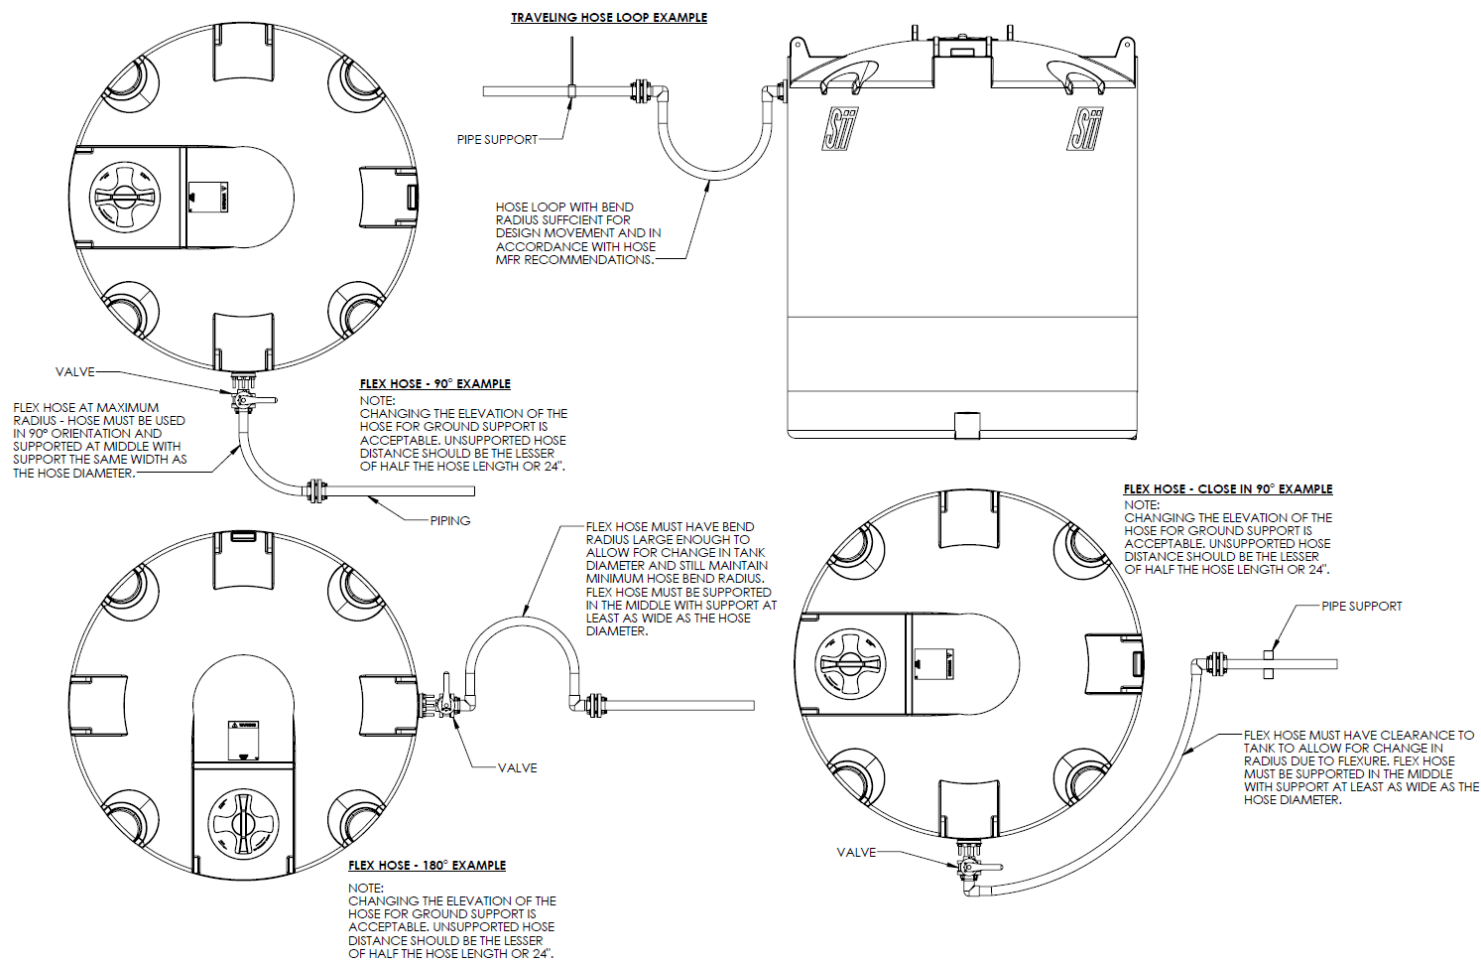

Figure 5.3.3
5.3.2 Tank connections must have adequate provisions for tank expansion/contraction due to temperature and load changes. See Figure 5.3.2 The overall height of the tank will shorten during filling. Therefore, on the top dome of the tank, the piping to top fitting connections must be allowed to move with the tank or flexible connections may be used. Rigid piping must not be directly plumbed to tank sidewall connections. Provisions must be made that allow 4%-dimensional movement on sidewall connections. SII requires using flexible hose, expansion joints or other provisions for all tank sidewall connections. Please see the hose connection examples in Figure 5.3.3 SII has developed the Flexmaster expansion joint for 2" and 3" bolted tank connections. Please see section 7.13 for more details. **The use of rigid piping or the failure to provide for the expansion of the tank will void all warranties.**